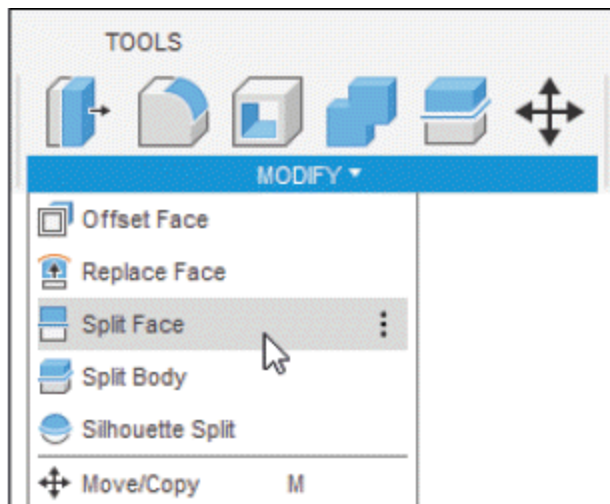
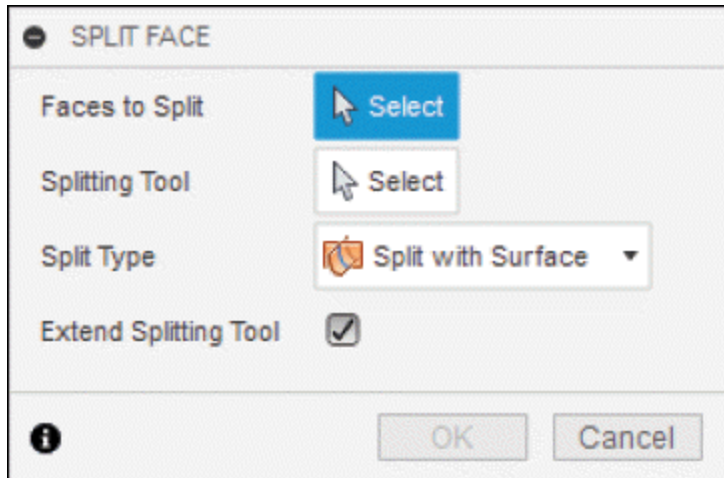

Figure-42. Split Face tool
Figure-43. SPLIT FACE dialog box
- Select **Split Face** tool of **MODIFY** drop-down from **Toolbar**; refer to Figure-42. The **SPLIT FACE** dialog box will be displayed; refer to Figure-43.